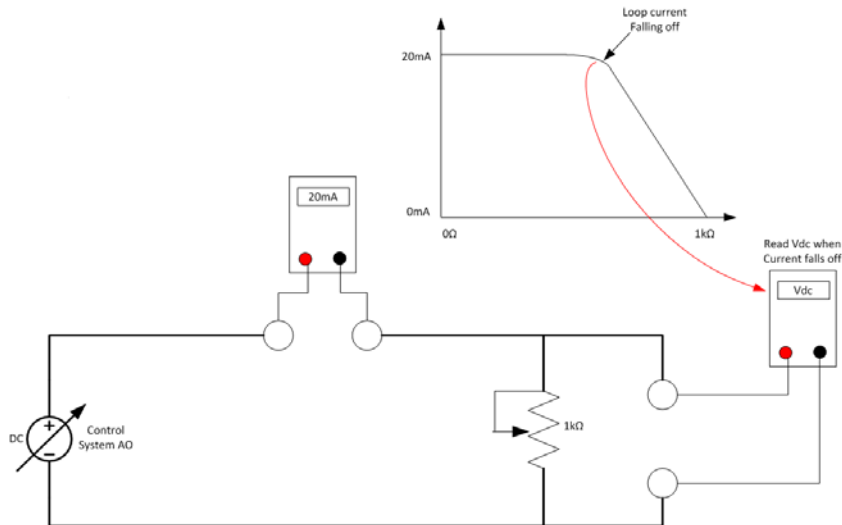

Figure 44 - Compliance Voltage Test Setup
1. Configure a test setup as in Figure 44.